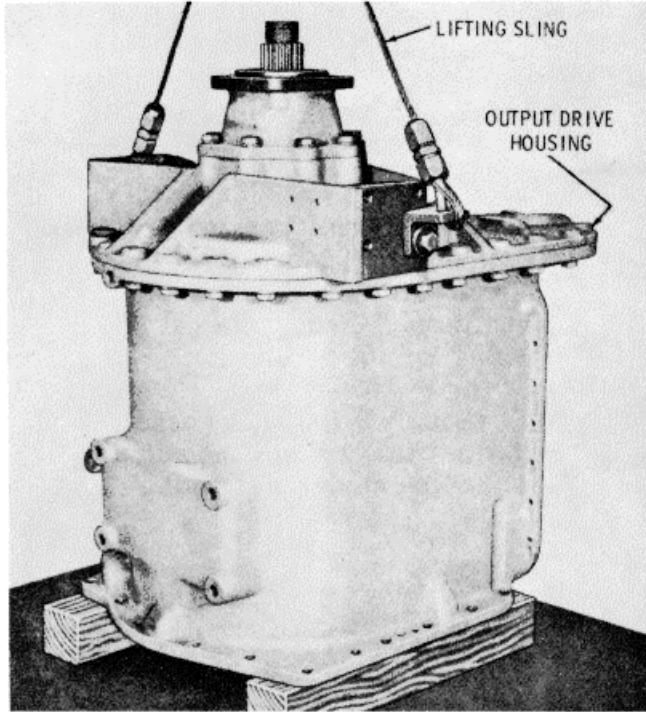

Figure 15-65. Positioning Transmission for Removal of Rear Components
2. Attach a two-strand lifting sling to the output drive housing (Figure 15-65).